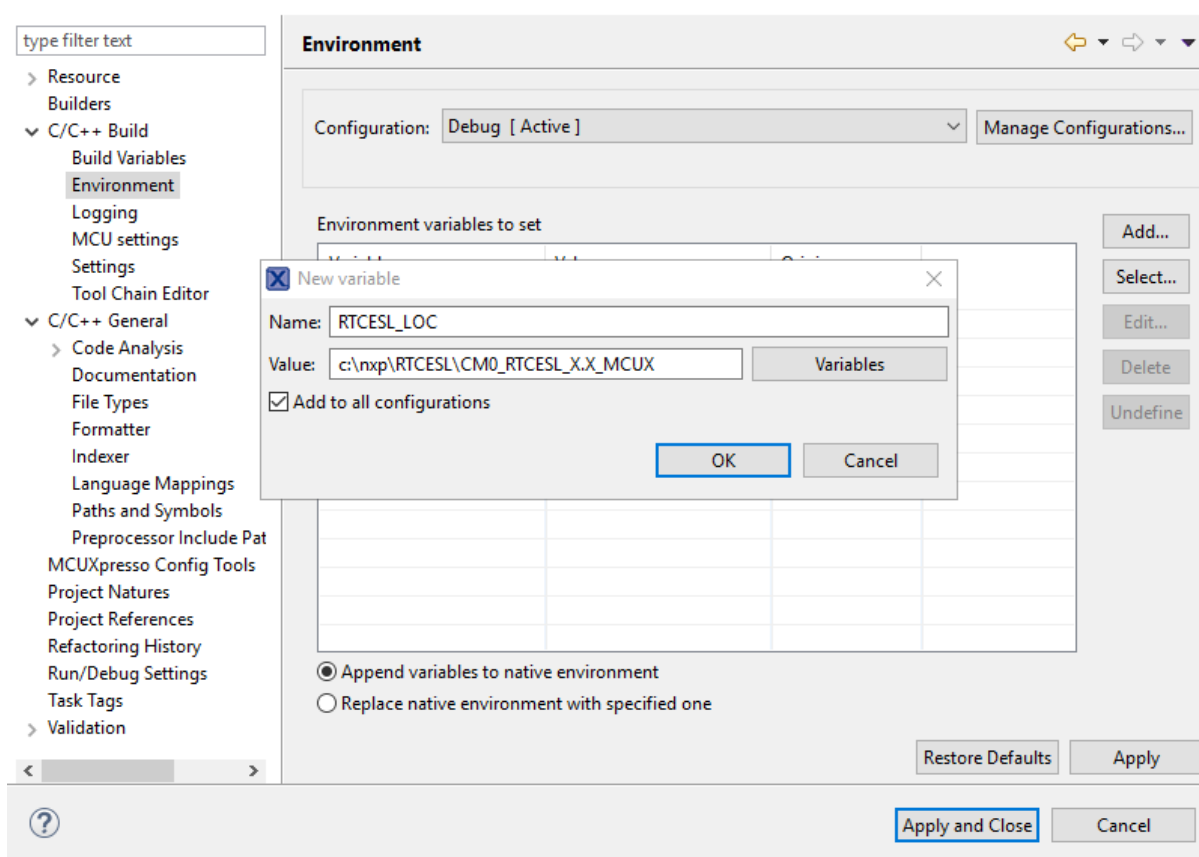

Figure 1-3. Environment variable
8. In the dialog that appears (see Figure 1-3), type this variable name into the Name box: RTCESL\_LOC.
10. Tick the Add to all configurations box to use this variable in all configurations. See Figure 1-3.